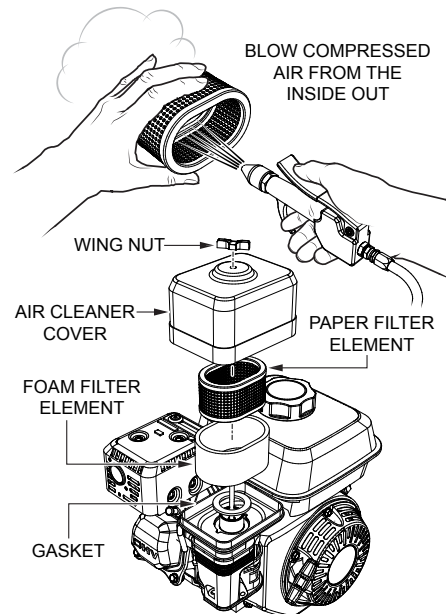

Figure 29. Engine Air Cleaner
1. Remove the air cleaner cover and foam filter element as shown in Figure 29.
2. Tap the paper filter element (See Figure 29) several times on a hard surface to remove dirt, or blow compressed air [not exceeding 30 psi (207 kPa, 2.1 kgf/cm²)] through the filter element from the air cleaner case side. **NEVER** brush off dirt. Brushing will force dirt into the fibers. Replace the paper filter element if it is excessively dirty.